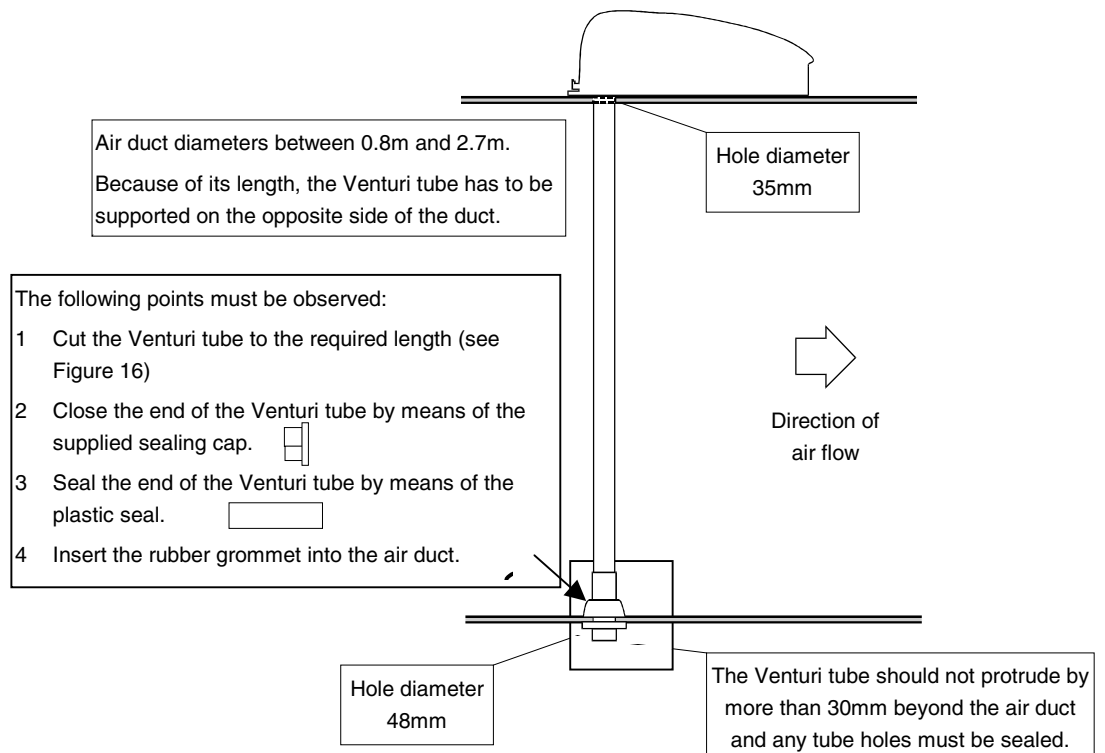

Figure 18 Mounting Venturi tubes between 0.8 m and 2.8 m
- 3 Close the end of the Venturi tube by means of the supplied rubber seal. See Figure 18 on page 7.